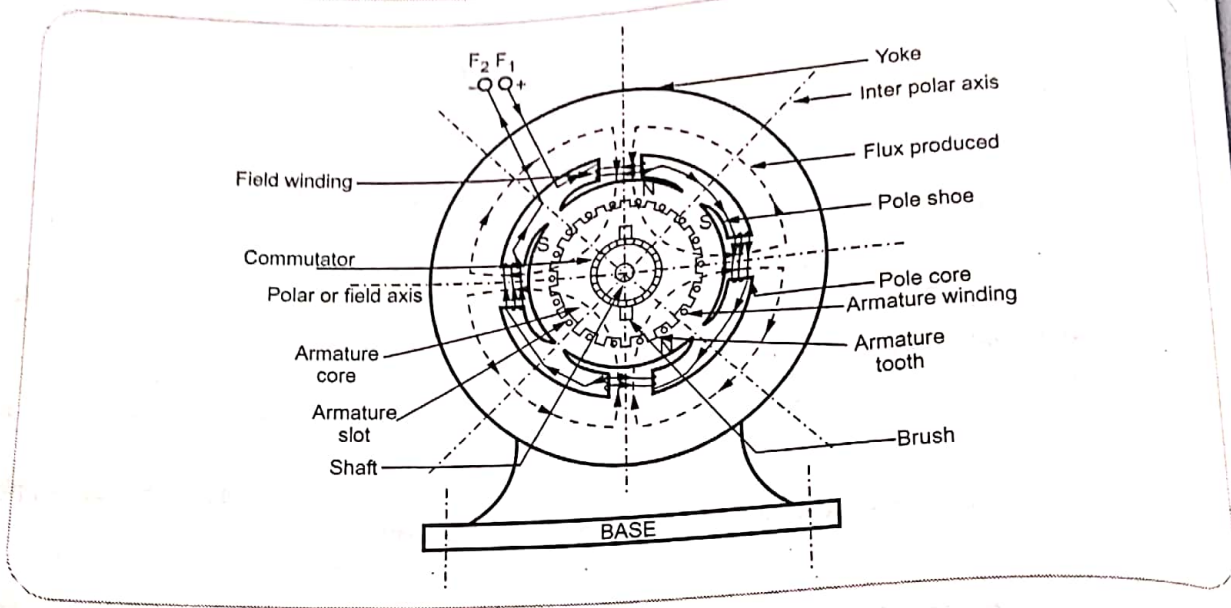

Fig. Q.29.1 A cross-section of typical d.c. machine
- The construction of a d.c. machine is shown in the Fig. Q.29.1.